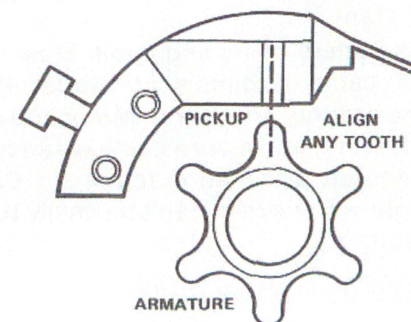

Figure 2 - Align Armature to Pickup
- Crank engine to align one tooth of armature (Figure 2) with magnet in pick-up coil (ignition OFF). Use a bump switch, or briefly touch a jumper between the R and R/LB terminals of the Starter Relay.